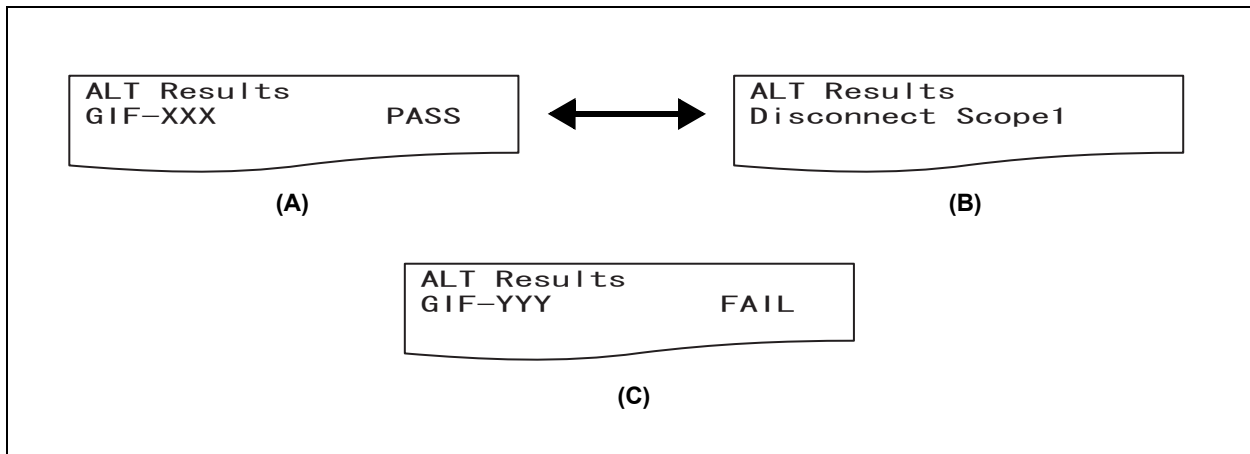

Figure 5.13
- 4** The automated leakage testing is automatically completed. When no leak is detected, a short beep sounds, and The LCD monitor alternately displays the two ALT Results indicators (A) and (B) as shown in Figure 5.13. When any leakage is detected in the testing, long beeps sound, and the ALT Results (see C in Figure 5.13) indicator is displayed.